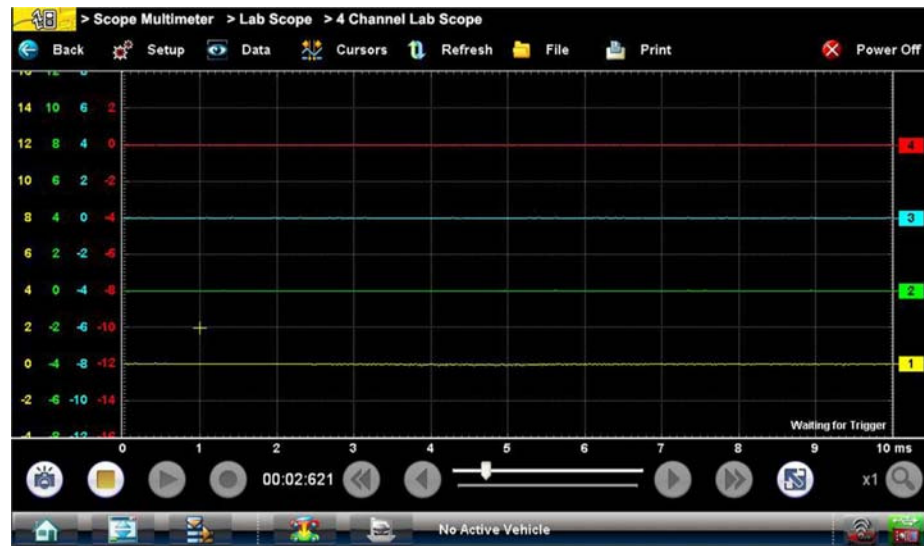

Figure 8-22 Sample grid selected
- **Show Grid**—switches grid lines on the screen off and on (Figure 8-22).
- **1 window**—shows all traces on the same screen (Figure 8-22).